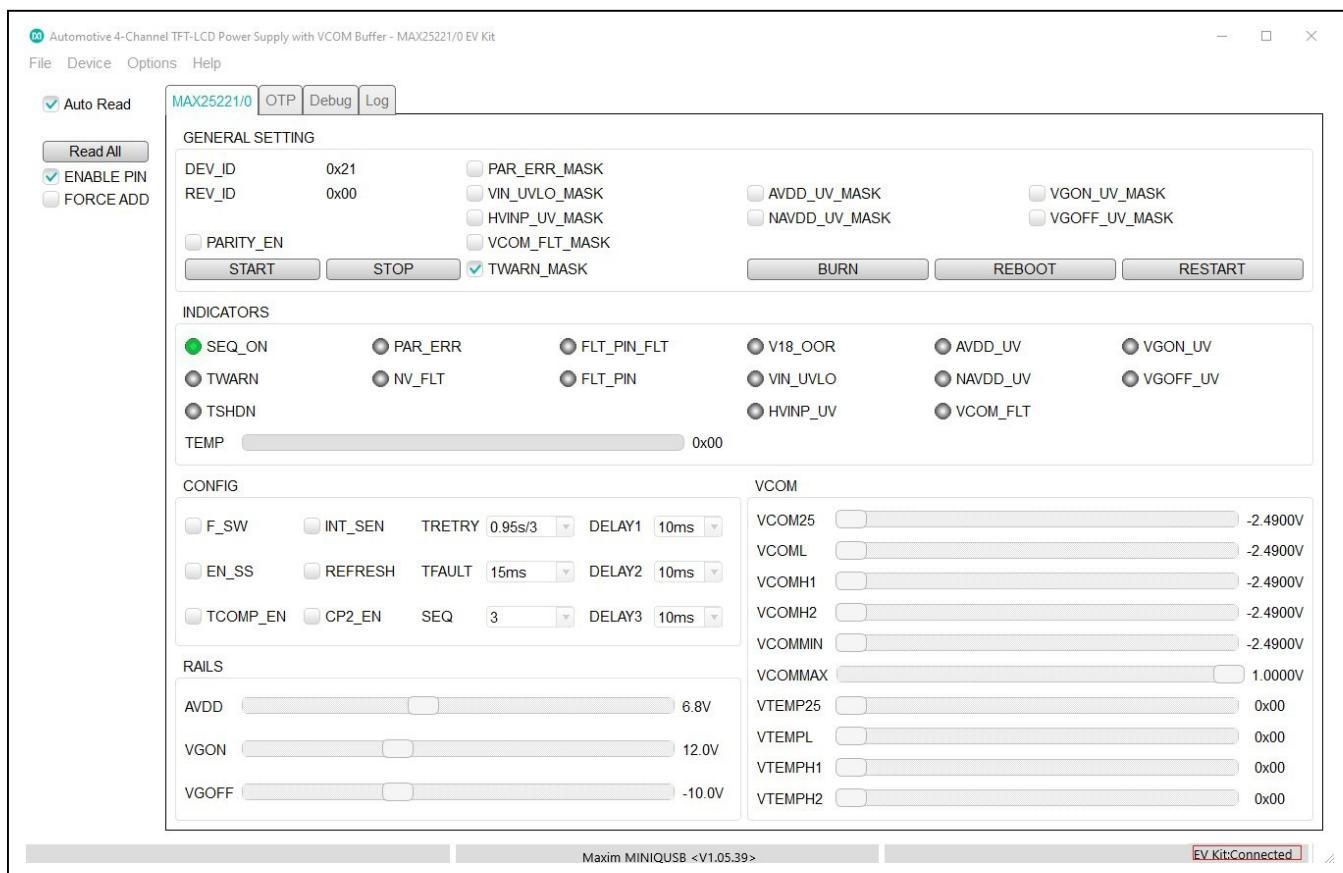

Figure 1. MAX25221 Evaluation Kit Software (GUI)
- From the EV kit software toolbar, select **Device → Scan for Address**. Verify the ENABLE pin in the GUI is enabled. The GUI scans the I²C bus for available slave addresses on the bus and selects the first one (in this case, the MAX25221 I²C address with J5 settings: 42H). Press **OK** once the MAX25220/MAX25221/MAX25221B/MAX25221C I²C address has been found. Figure 1, is a screen capture of MAX25221 Evaluation Kit Software (GUI).